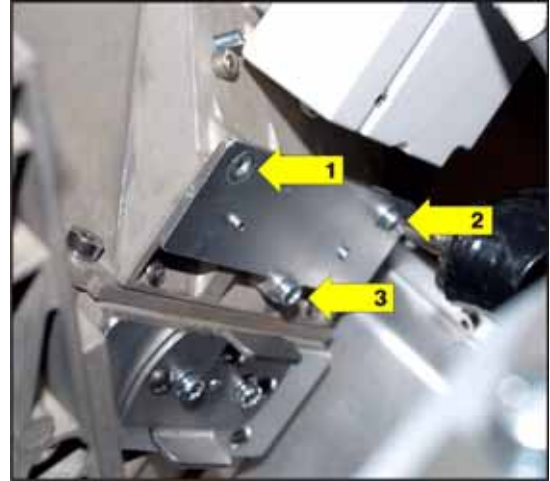

Figure 5-69 Remove Contrast Aperture
4. Use a #2 Phillips™ to remove the three screws securing the contrast aperture to the IOS (**Figure 5-69**).